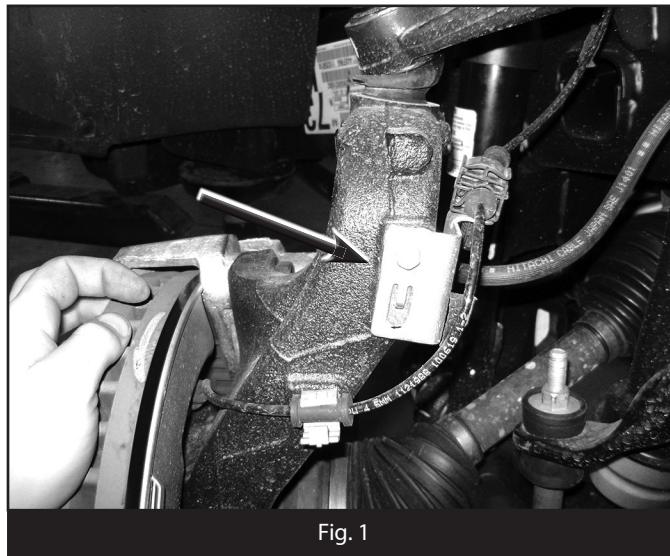

Fig. 1
4. Disconnect ABS wire from the brake line bracket on the steering knuckle and disconnect the bracket from the knuckle. (Fig 1).